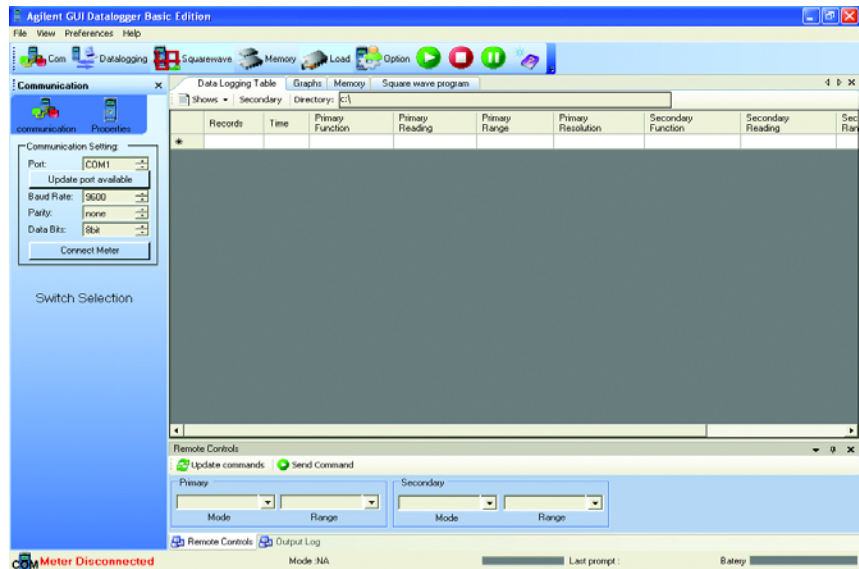

Figure 1 Agilent GUI Datalogger Basic Edition
- 3 Connect the instrument to the computer via U1173A IR-USB cable (Figure 1) and turn on the instrument.